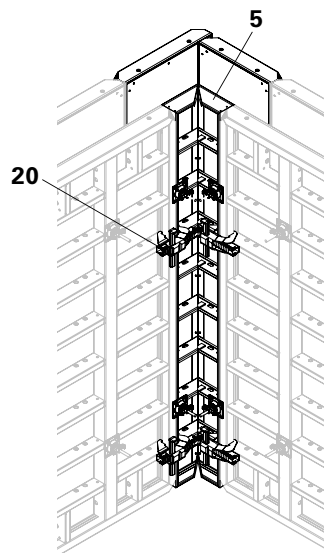

Fig. A7.04
- TRIO Inside Corner TE (5) or Internal Corner TAE (Alu)
- Alignment Coupler BFD (20) (2 x BFD for h = 2.70 m) (Fig. A7.04)